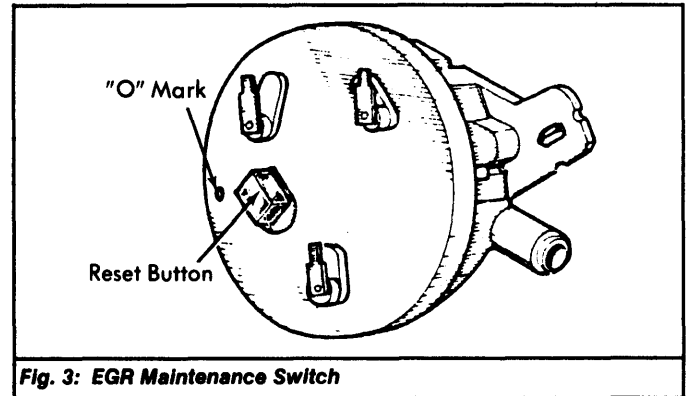

Fig. 3: EGR Maintenance Switch
- 3) Remove safety wire from cover and lift cover off switch. Turn reset button 1/4 turn counterclockwise (toward "O" mark). See Fig. 3. The EGR warning light should be off and switch reset for next 25,000 mile cycle. Replace cover and attach new safety wire.